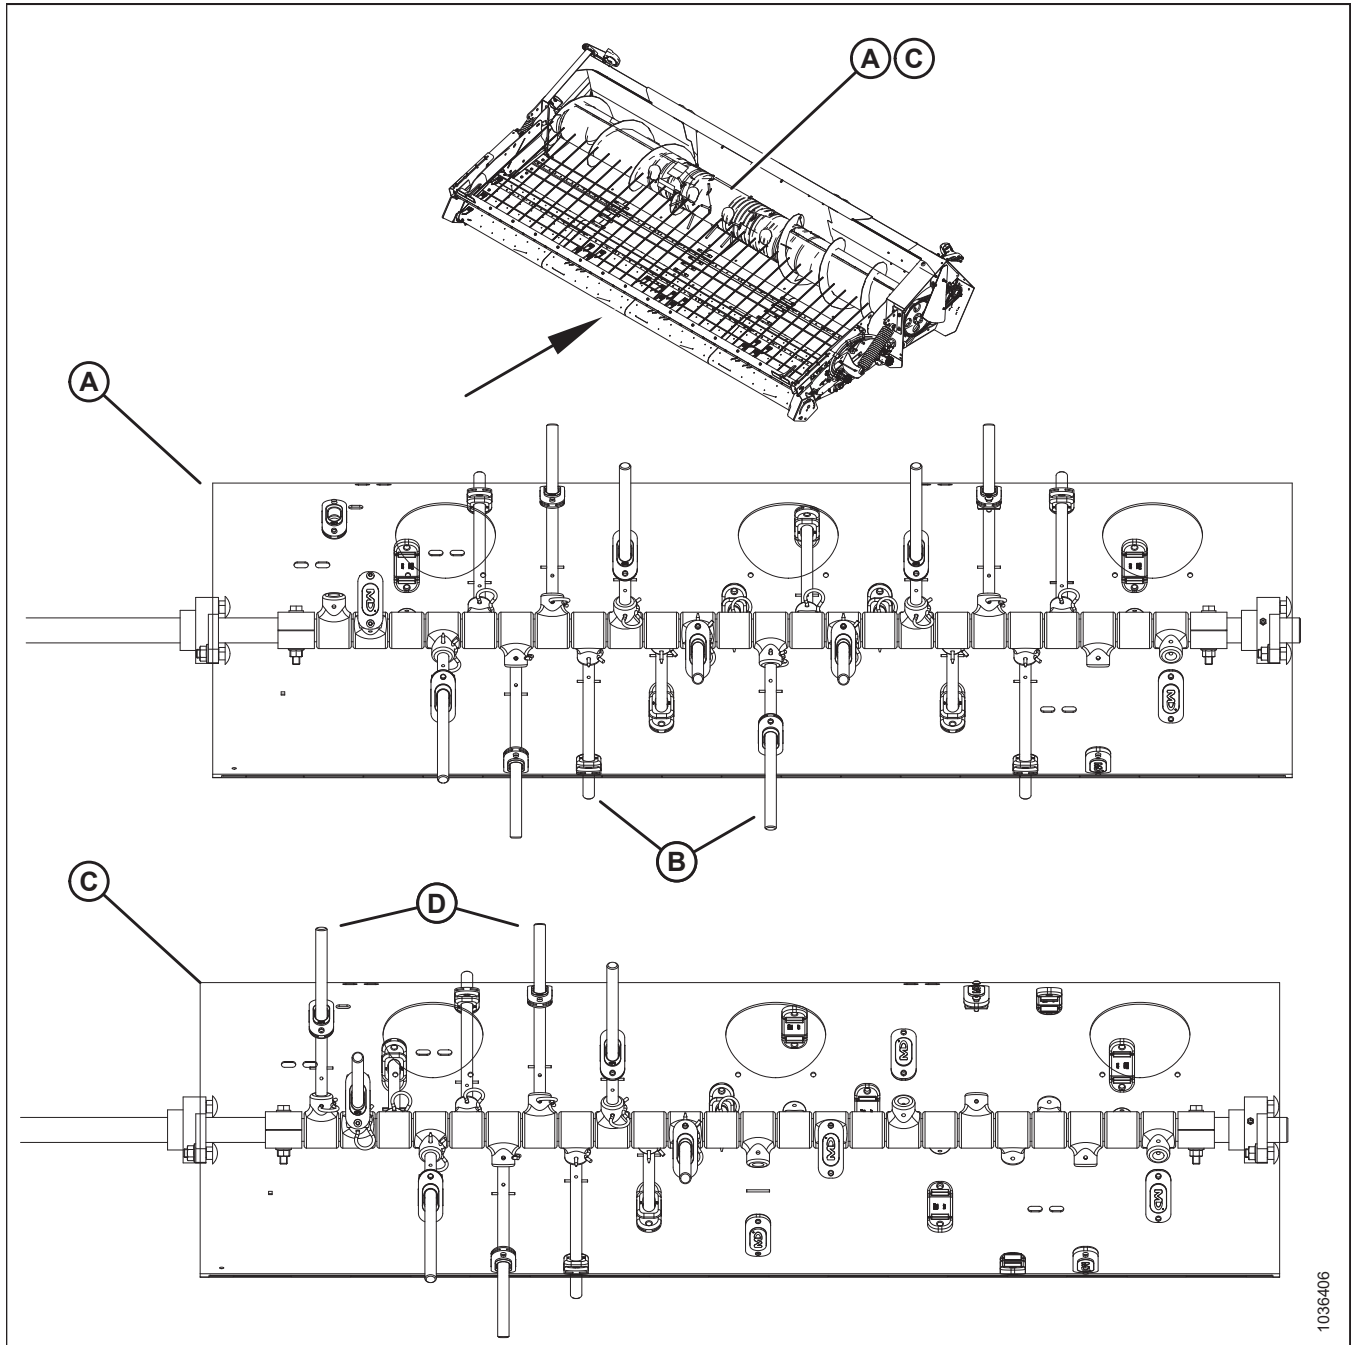

Figure 5.69: Auger Finger Installation Locations
7. Repeat Steps 2, page 62 to 6, page 62 to remove the plugs from the remaining locations where the fingers will be installed. For an illustration of the locations, refer to Figure 5.69, page 61.